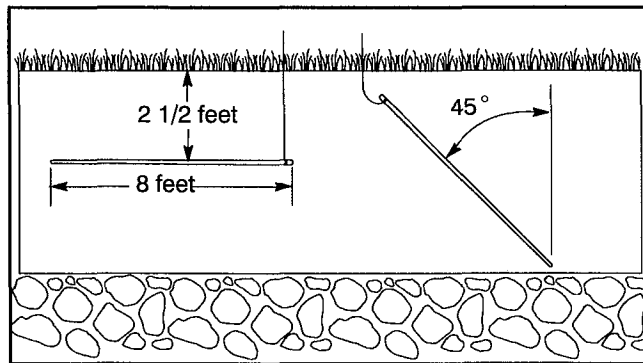

Figure 20
1. A minimum length of 8 feet of the grounding conductor must be in contact with the soil (Fig. 20).
2. The grounding conductor must be driven to a depth of 8 feet minimum except when a rock bottom is found. The grounding conductor can then be driven at an oblique angle not to exceed 45 degrees, or buried in a trench that is at least 2.5 feet deep (Fig. 20).